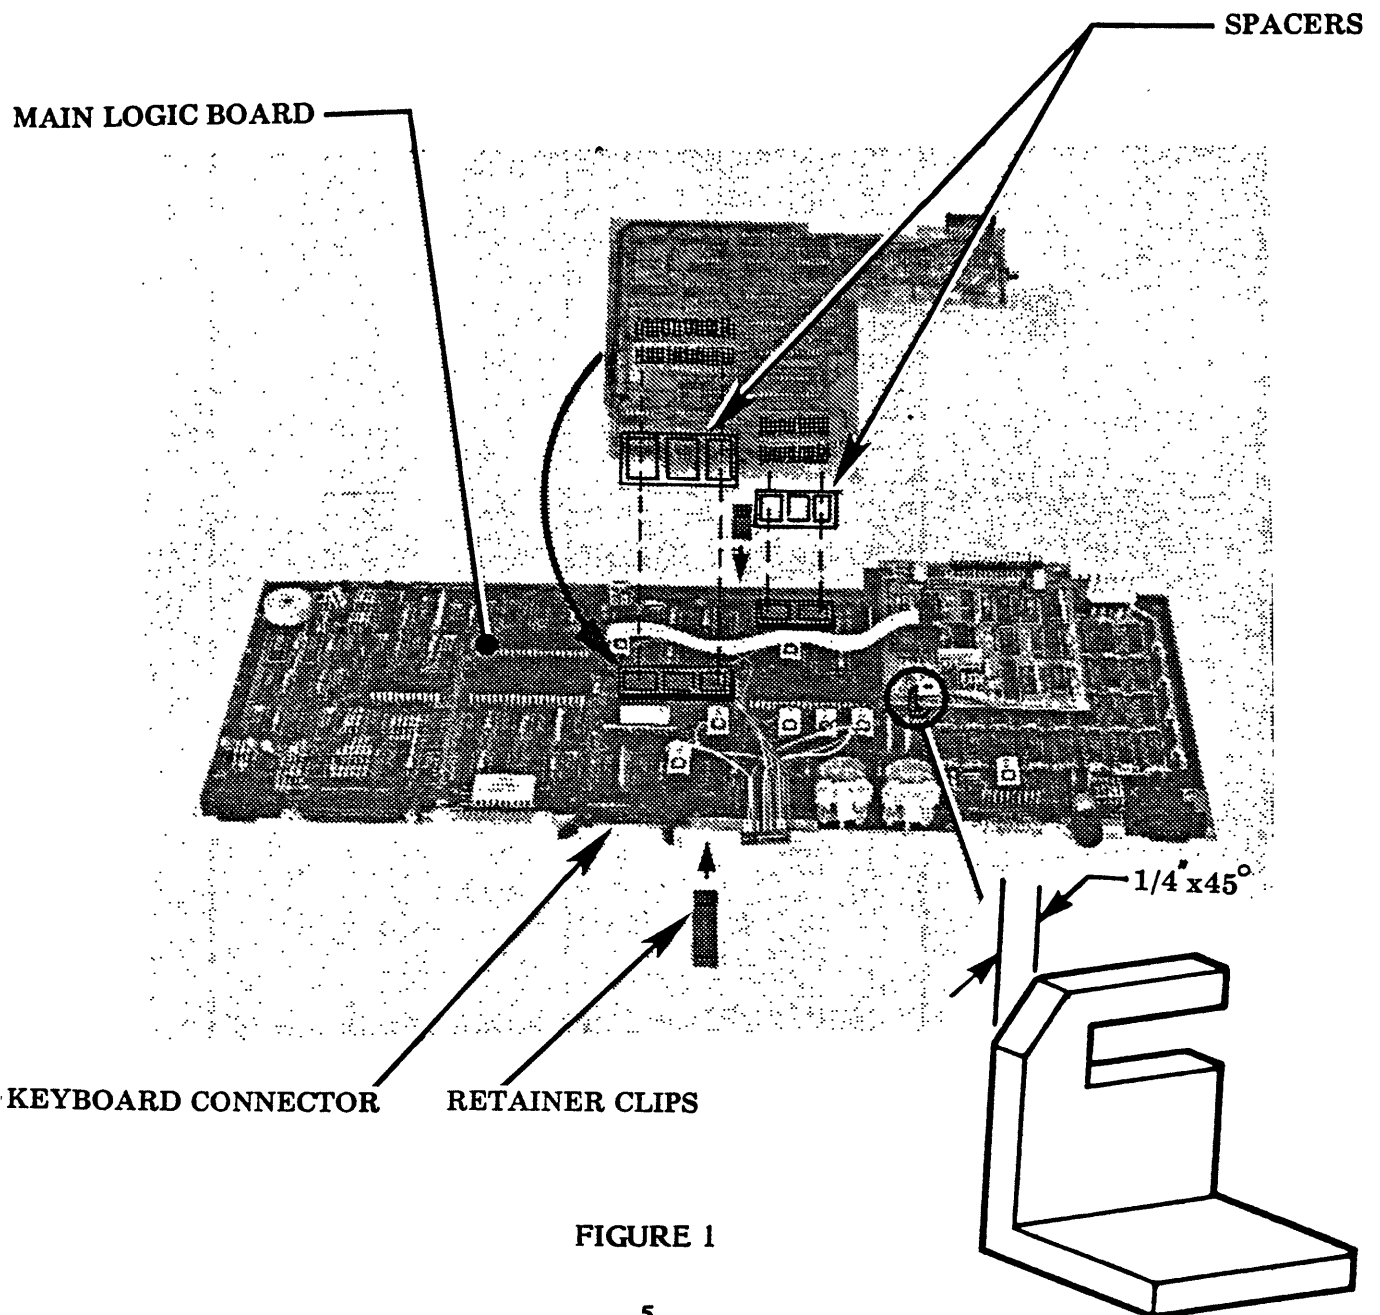

FIGURE 1
13.0 Remove the Logic PWB from the computer. Remove the Z-80 Microprocessor and the Character Generator. Place the Logic PWB on a soft work surface with the video shafts towards you. Hold the SCREEN-PAC PWB component side up and align it with the Logic PWB as follows (Refer to Table 2 and Figure 1).
If the Double Density Option PWB has been installed, you may need to make a diagonal cut in the stand-off used to mount it to the Logic PWB. This will allow the SCREEN-PAC PWB to be mounted next to the Double Density PWB (Refer to Figure 1).
16.0 Connect the ribbon cable from the Logic PWB to P3 on the 80-Column PWB. Remove the (2) PWB Retainer Clips from the upgrade kit.
A. Insert (1) retainer clip into the hole on the Logic PWB between the ribbon cable and the keyboard connector. Fasten the SCREEN-PAC PWB to this clip (Refer to Figure 1.)
B. Position the other retainer clip on the opposite edge of the SCREEN-PAC PWB. Fasten this clip into the hole between locations A13 and A14 (Refer to Figure 1.)